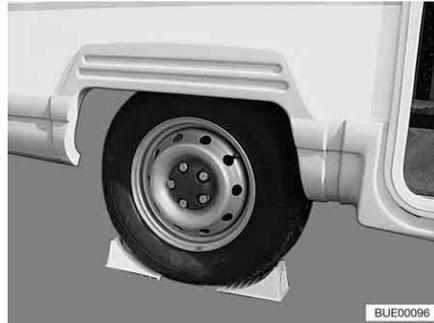

Fig. 308 Securing vehicle
- Place wheel chocks or other appropriate objects beneath the opposite wheel of the vehicle to secure it (Fig. 308).